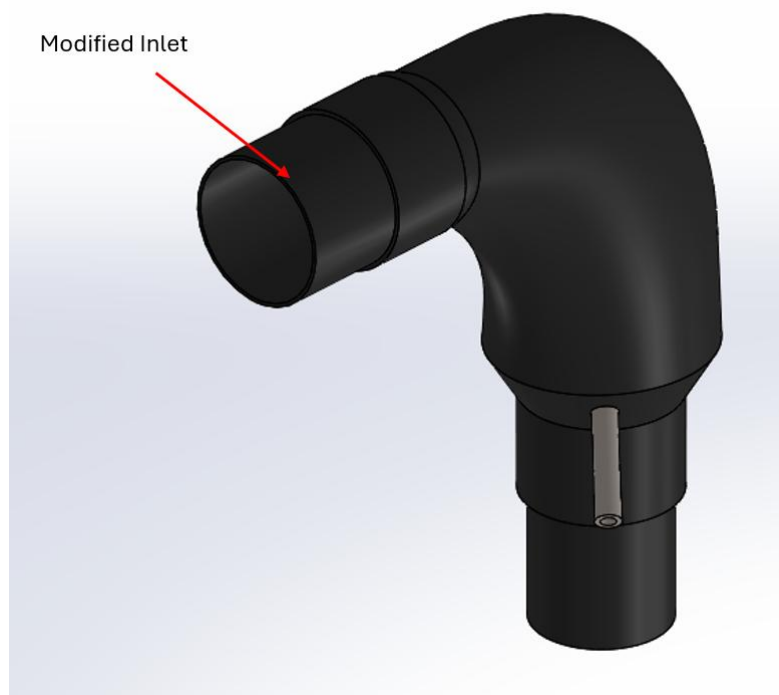

Figure 11: Modified Water Trap Assembly
1. Refer to Figure 11 for the supplied modified water trap assembly.